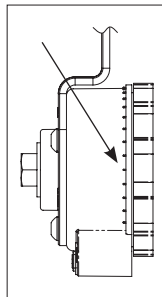

Fig. 3
9. The housing of the tensioner has equally spaced graduation marks (every 10°) that can be used to establish rotational degrees and resulting tensioner force. See Figure 3. For reference you may want to place a mark on or near the desired graduation mark.